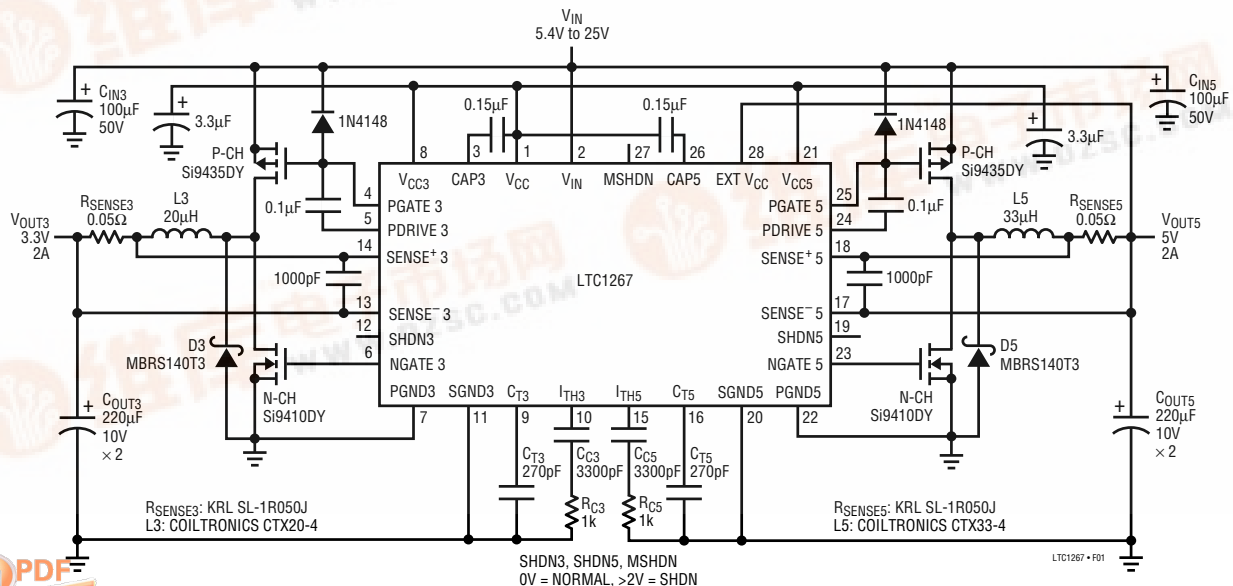

Figure 1. High Efficiency Dual 3.3V, 5V
**Note 6:** The logic level power MOSFETs shown in Figure 1 are rated for  $V_{\text{DS(MAX)}} = 30\text{V}$ . For operation at  $V_{\text{IN}} > 30\text{V}$ , use standard threshold MOSFETs with EXT  $V_{\text{CC}}$  powered from a 9V supply. See applications information.